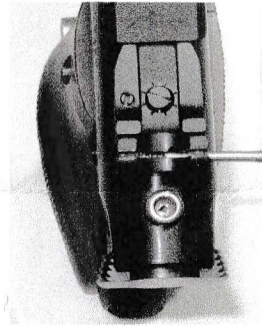

Fig. 3
- 3: Orient the new rear sight blade with the white line facing to the rear. You will see a small dimple on the front side of the rear sight blade. You will also see a corresponding notch in the forward edge of the rear sight base. Start by compressing the spring again. (See Fig. 3) While holding the spring compressed, start the left side of the rear sight blade into the rear sight base. Align the dimple on the rear sight blade with the notch on the rear sight body. Once the dimple starts into the notch, remove the punch and you will be able to seat the rear sight blade into the rear sight base. Once properly seated, the rear sight blade will be all the way to the right and have spring tension. At this point replace the windage adjustment screw and center the rear sight blade.